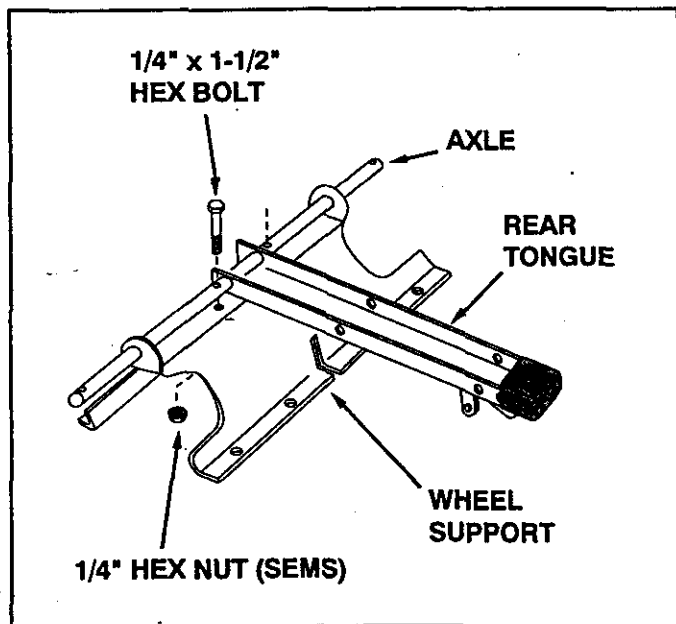

FIGURE 3
- Assemble the axle and the rear tongue to the wheel support with the open side of tongue facing away from the wheel support. Fasten the axle to the wheel support using two 1/4" x 1-1/2" hex bolts and two 1/4" (SEMS) type hex nuts. **Tighten.** See figure 3.